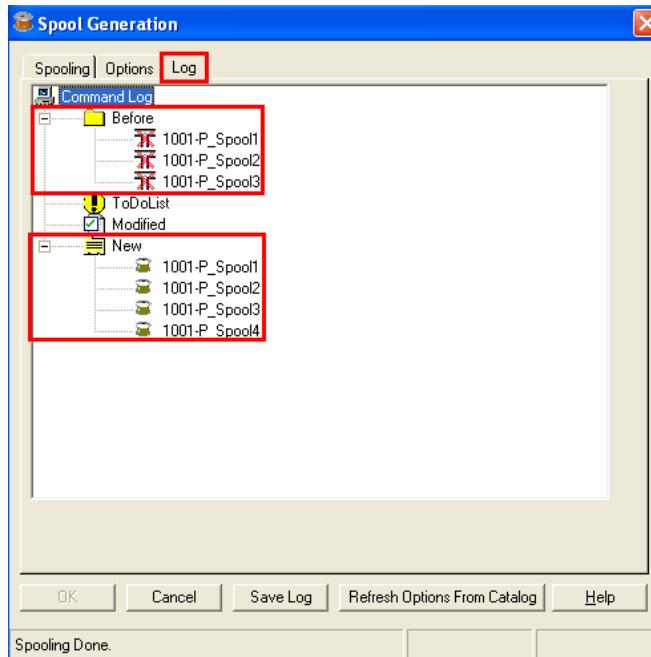

Figure 28: Spools Generated After Inserting the Control Point
10. Now click the **Log** tab in the **Spool Generation** dialog box. This will show you the number of spools before and after inserting the control point, as shown in Figure 28.